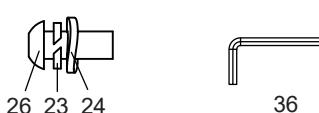

Figure 5
3.2 Connect the Sensor cable 1(41) with the Sensor cable 2(42) firmly. (see fig.5)
3.3 Use the Screwdriver (36) applied, M8x20 Inner hex screw (26), $\Phi 8$ Spring washer(23) and $\Phi 8$ Arc washer(24), connect the Centre bar (2) to the Main frame(1). (see fig.5)